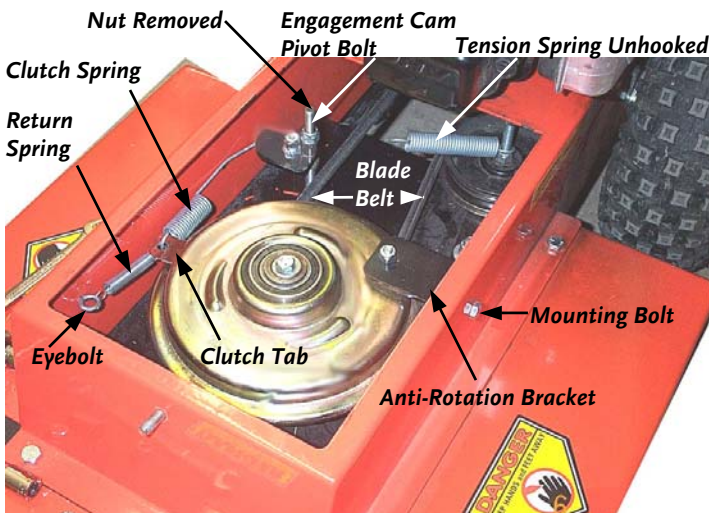

Figure 13
2. Remove the top nut from the Blade Engagement Cam Pivot Bolt (**Figure 13**). Remove the Belt Tension Spring from the Shaft by gripping the Spring with your gloved hand, pulling the Spring toward the Shaft, and lifting it over the Shaft (**Figure 13**).
3. Remove the Anti-Rotation Bracket by removing the Mounting Bolt from the side of the machine (**Figure 13**). Place one hand beneath the Bracket inside the machine to catch any inside washers. Lift the Bracket from the Clutch.
4. Remove the Clutch Return Spring by unhooking it from the Eyebolt (**Figure 13**) and the Clutch Spring Hook under the Clutch Tab.
5. Remove the Clutch Spring from the Clutch Tab by rotating the tab toward the rear of the machine (clockwise) to relieve tension and unhook the Spring from the Tab (**Figure 13**).
6. Remove the Belt from the Engine Pulley below the machine and then remove it from around the Clutch (**Figure 13**).